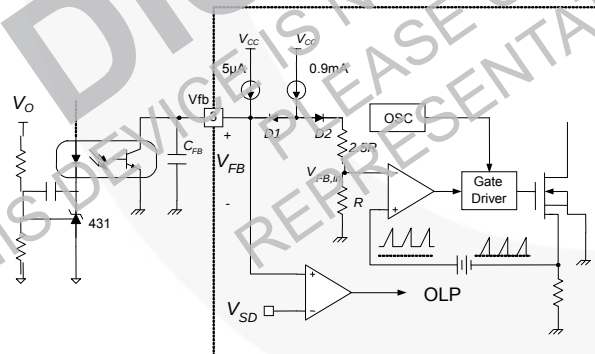

Figure 14. Pulse Width Modulation (PWM) Circuit
2. Feedback Control: The 700V FPS series employs Current Mode control, as shown in Figure 14. An optocoupler (such as the H11A817A) and shunt regulator (such as the KA431) are typically used to implement the feedback network. Comparing the feedback voltage with the voltage across the R_{sense} resistor of SenseFET, plus an offset voltage, makes it possible to control the switching duty cycle. When the regulator reference pin voltage exceeds the internal reference voltage of 2.5V, the optocoupler LED current increases, feedback voltage V_{FB} is pulled down, and the duty cycle is reduced. This typically occurs when the input voltage increases or the output load decreases.
4.3 Over-Voltage Protection (OVP): In the event of a malfunction in the secondary-side feedback circuit or an open feedback loop caused by a soldering defect, the current through the optocoupler transistor becomes almost zero (refer to Figure 14). Then, V_{FB} climbs up in a similar manner to the overload situation, forcing the preset maximum current to be supplied to the SMPS until the overload protection is activated. Because excess energy is provided to the output, the output voltage may exceed the rated voltage before the overload protection is activated, resulting in the breakdown of the devices in the secondary side. To prevent this situation, an Over-Voltage Protection (OVP) circuit is employed. In general, V_{CC} is proportional to the output voltage and the FPS uses V_{CC} instead of directly monitoring the output voltage. If V_{CC} exceeds 19V, the OVP circuit is activated, terminating switching. To avoid undesired activation of OVP during normal operation, V_{CC} should be designed to be below 19V.